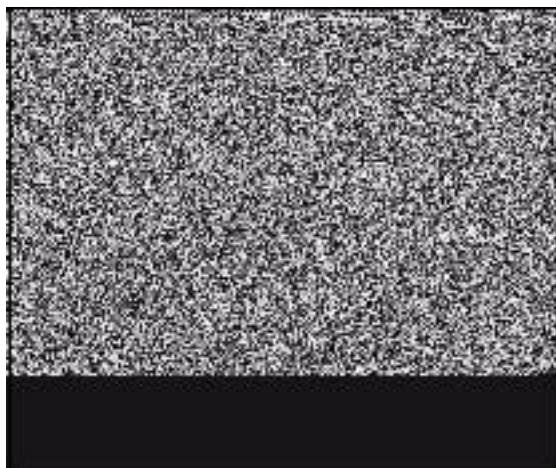

Fig. 117
2. Place new seal ([A] Fig. 117) lip down on the choke shaft (B). Insert shaft into carburetor while engaging detent spring
(C) on choke lever detents ([D] Fig. 117).
(B), secure with screw ([F] Fig. 117).